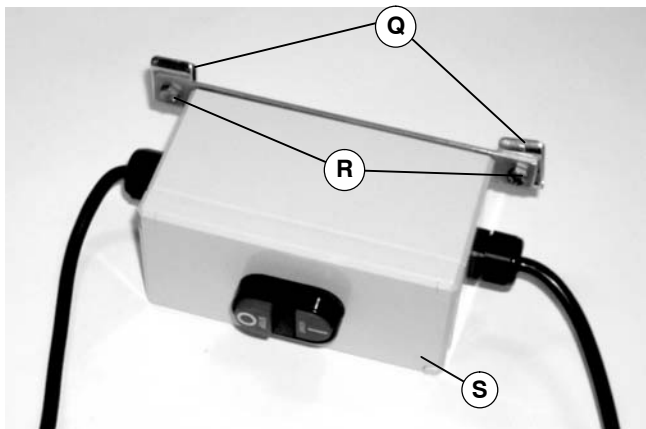

Figure 16
1. Attach two accessory mounting clips (Q of Figure 16) to motor starter (S) with two M6 x 20mm hex head cap screws (R). Do not tighten screws.